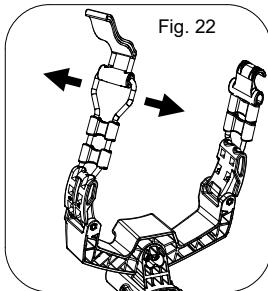
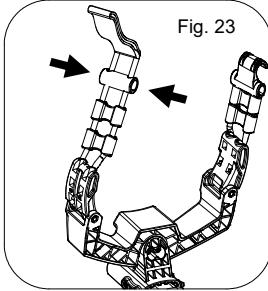

Fig. 22
Fig. 23
Refer to the Fig. 22 & Fig.23:
1. Pull the elastic strap out of the strap buckle as in fig. 22.
3. Push the elastic strap back to the strap buckle as in fig. 23.